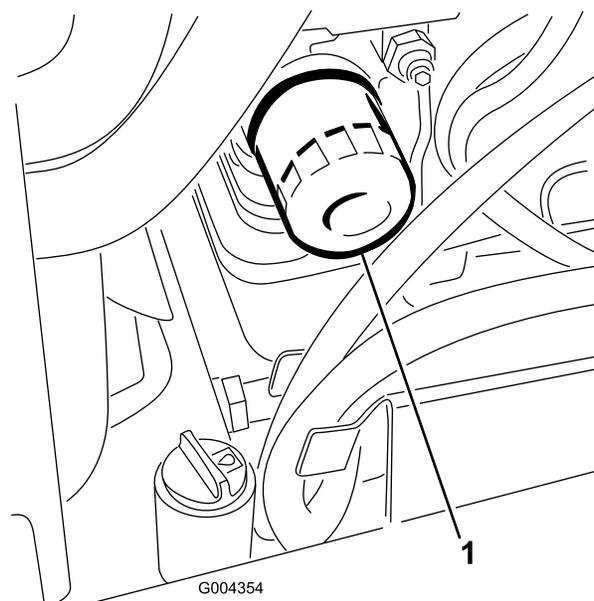

Figure 29
3. Remove the old filter (Figure 29) and wipe the surface of the filter adapter gasket.